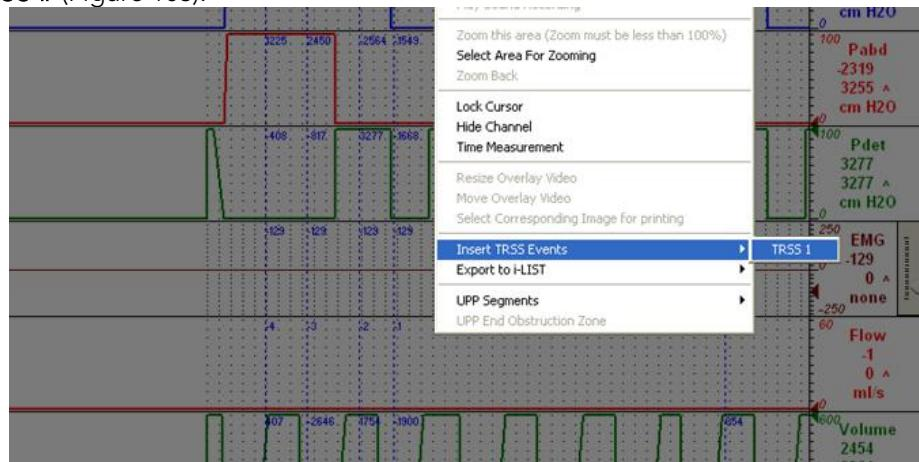

Figure 103: TRSS Events
2. Select the **TRSS #** (Figure 103).